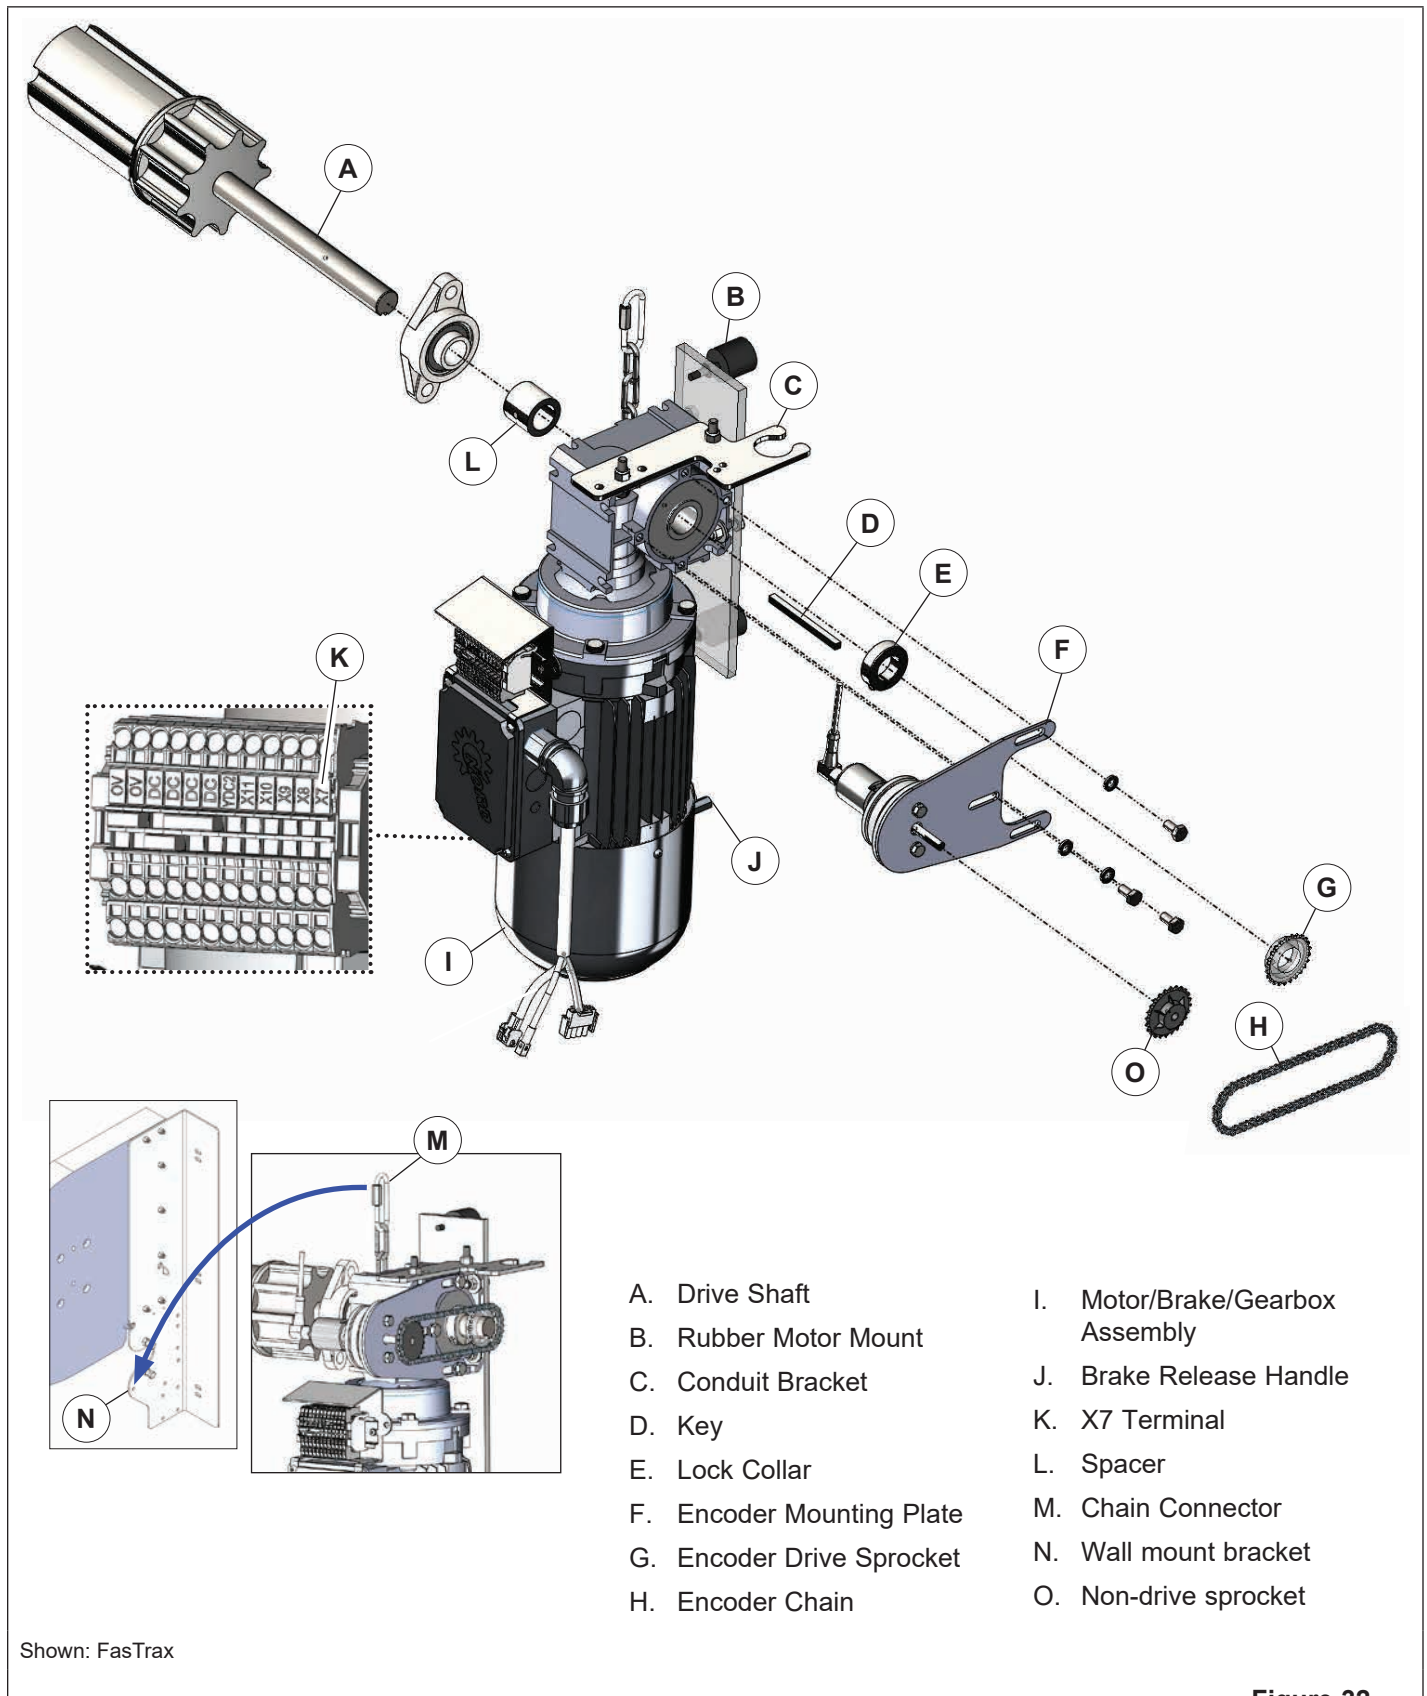

Figure 32
- X7 terminal (I) can be used for activation devices.
10. Fasten chain connector (M) from gearbox to hole (N) in wall mount bracket (**Figure 32**).